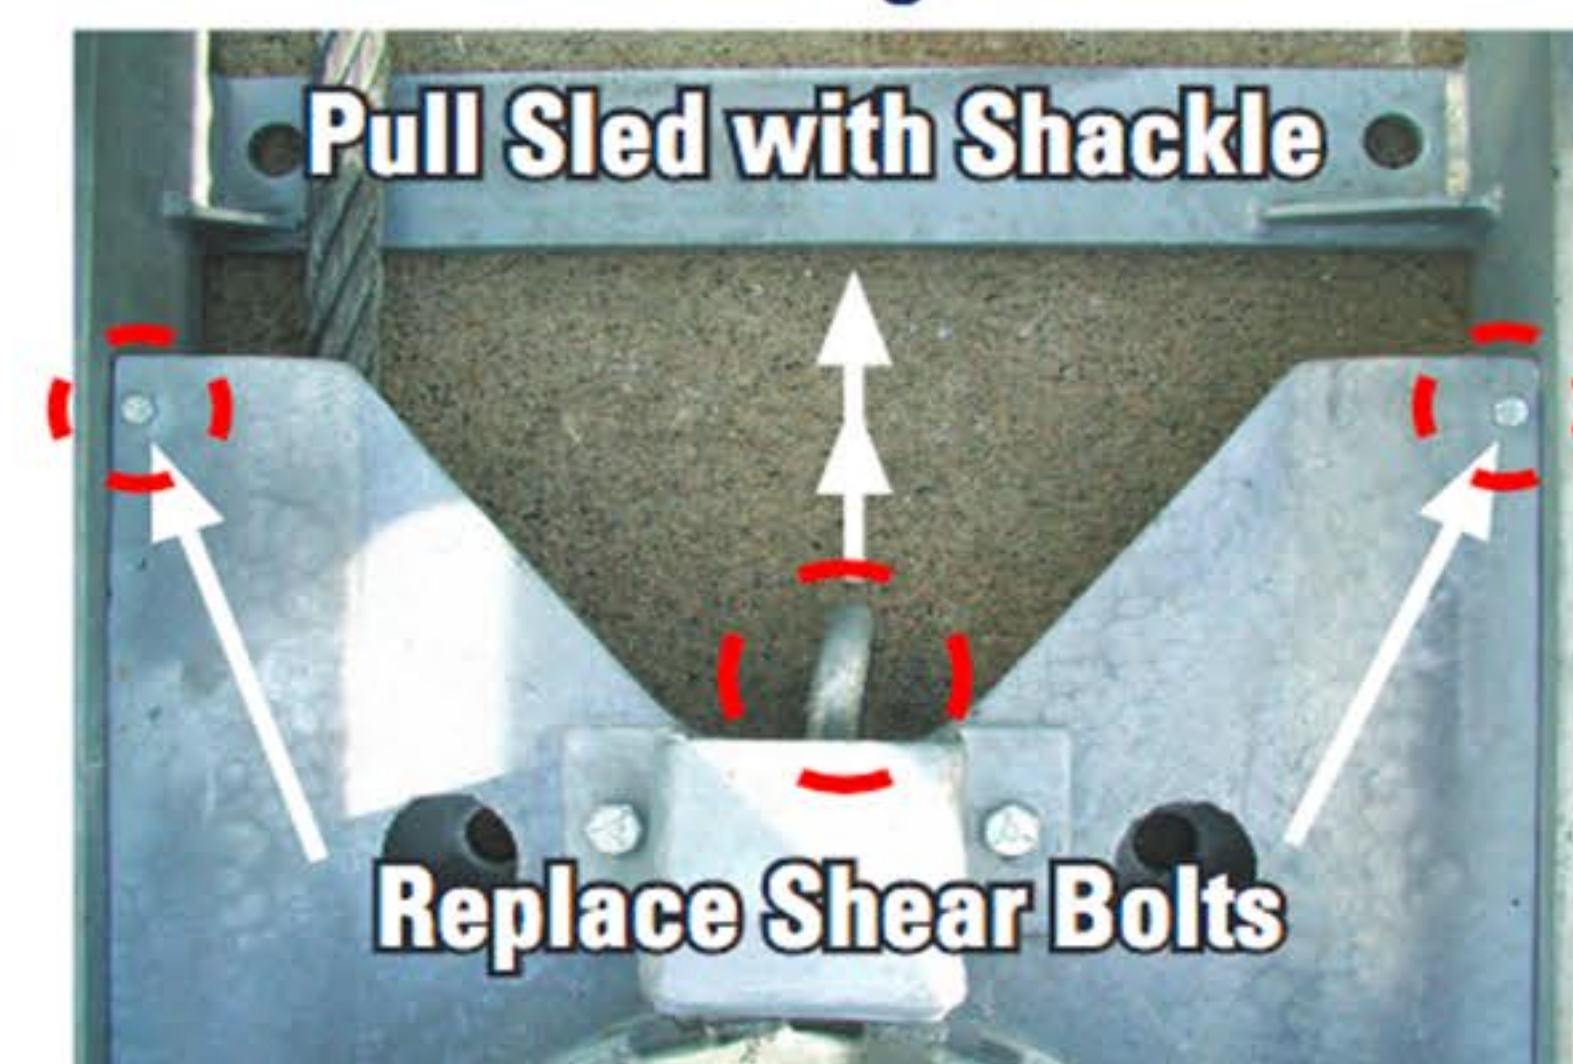

Fig. 6
12. Remove shear bolt remnants in the holes on both sides of the mobile sheaves. These are grade 8 bolts so they can be difficult to remove without a 90 degree pry bar with a claw to pry out. (See Fig. 6)
13. Attach a pulling means to the shackle on the mobile sheave assembly. (See Fig. 6)